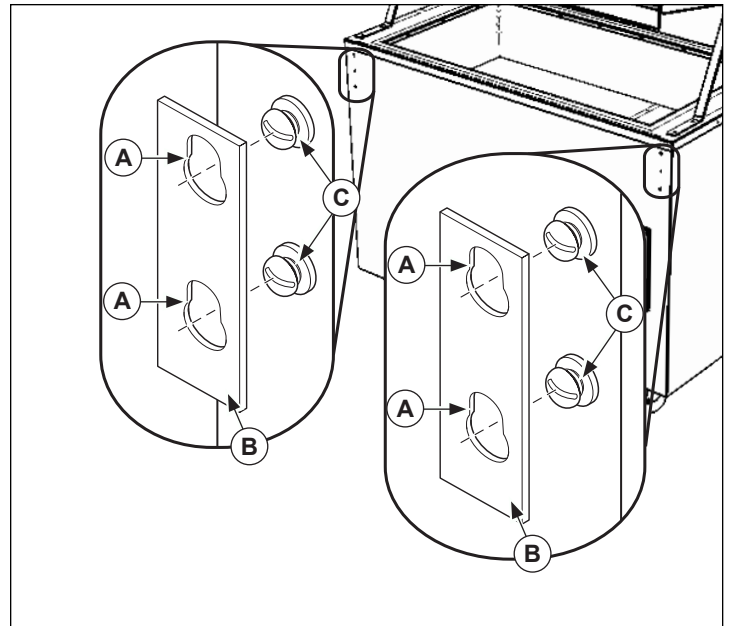

Figure 7. Bracket Installation and Removal
1. To install the plate rest, tray slide or cutting board: Slide the key holes (A) on the brackets (B) over the screws (C). See figure 7.